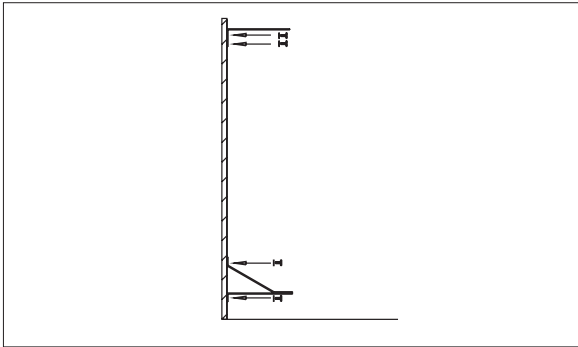

Figure 3 – Install mounting bracket
**Step 1:** Secure wall and stabilizing brackets to mounting surface (Figure 3).